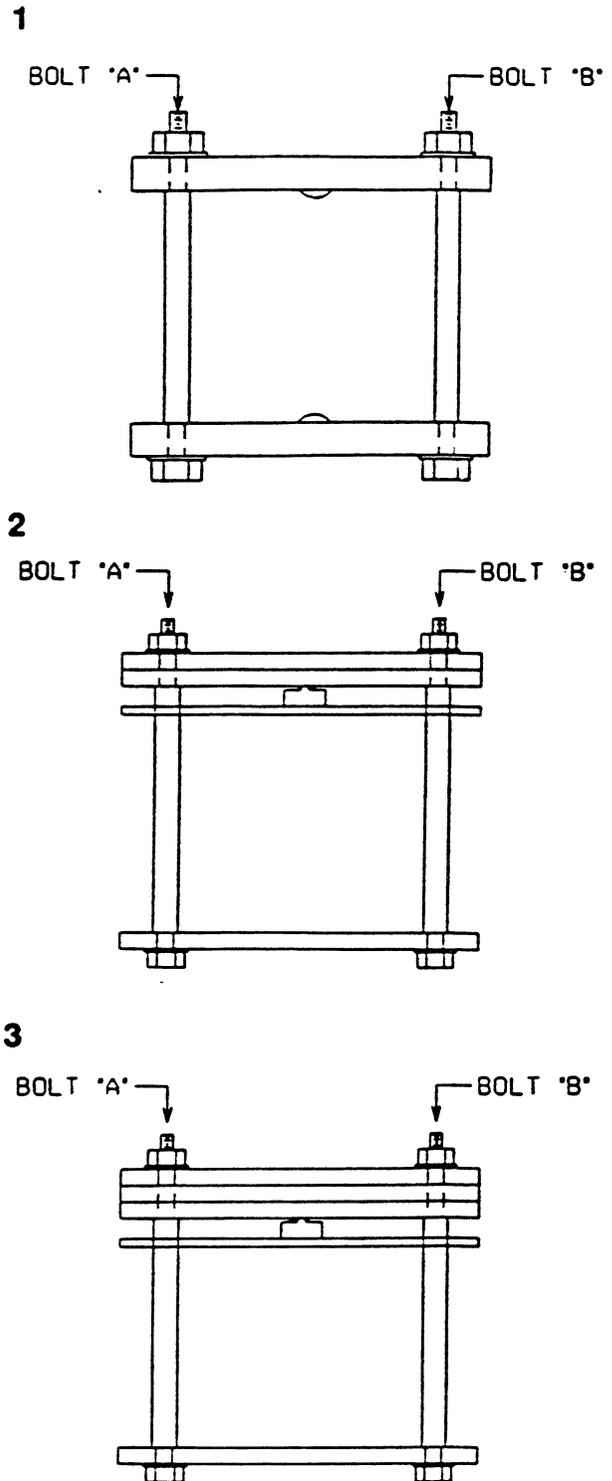

Figure 5-5. Clamping Hardware Types
1. If clamping hardware is style 1 shown in Figure 5-5, re-assemble the rectifier bridge assembly using the following procedure. Otherwise, go to 2 below.
2. If clamping hardware is style 2 or 3 shown in Figure 5-5, re-assemble the rectifier bridge assembly using the following procedure.